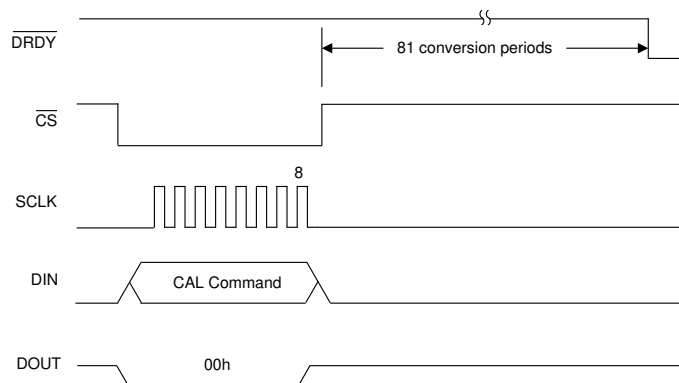

図 7-21. Calibration Command
- a. OFSCAL command. After the command is sent, \overline{DRDY} is driven low 81 conversion periods later to indicate calibration is complete. The OFFSET register is updated with the new calibration value. As shown in 図 7-21, the first data output uses the new OFFSET value.
- a. GANCAL command. Apply a positive dc full-scale calibration voltage. After the command is sent, \overline{DRDY} is driven low 81 conversion periods later to indicate calibration is complete. The ADC calculates GAIN such that the full-scale code is equal to the applied calibration signal. As shown in 図 7-21, the first data output uses the new GAIN value.